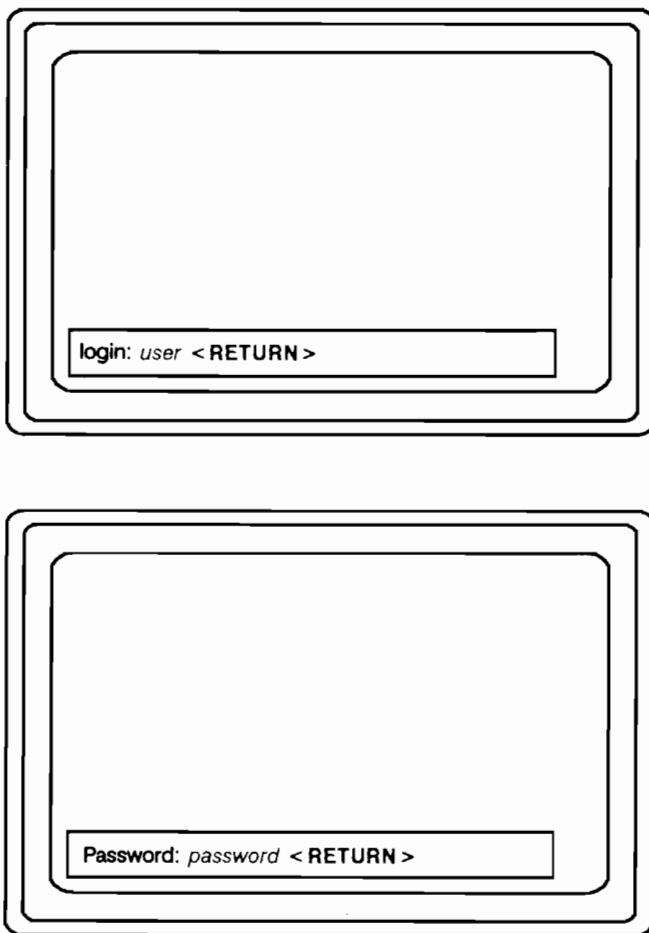

Figure 3-12. Logging In
6. Log in (type your username) as shown in Figure 3-12. If you don't have a username account yet, you may log in as **user**. If you log in as **user**, press **<RETURN>** at the "Password:" prompt.